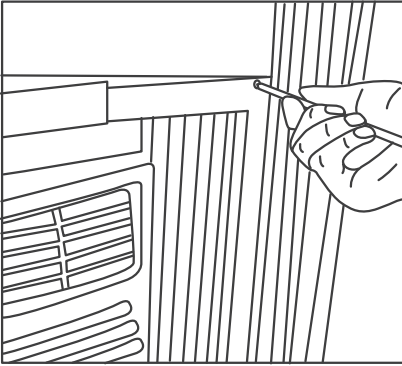
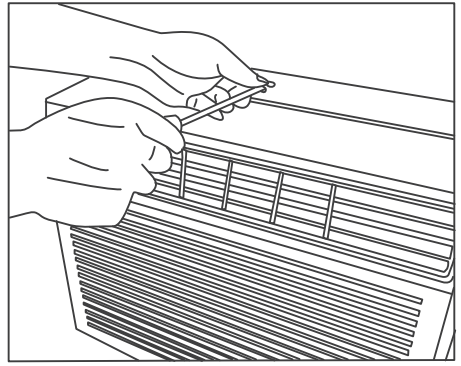

Fig.9
Fig.10
- 5 Drive 1/2" (12.7mm) locking screws through frame holes into window sash (Fig.9 Fig10).